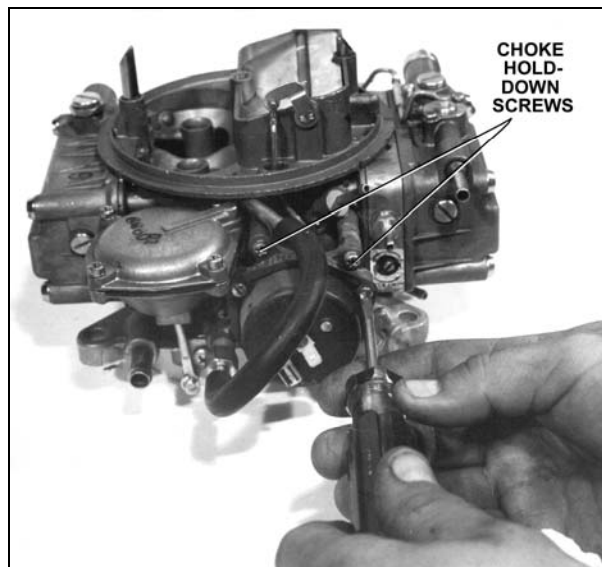

Figure 1
2. Remove the three choke cap assembly (See Fig. 1).